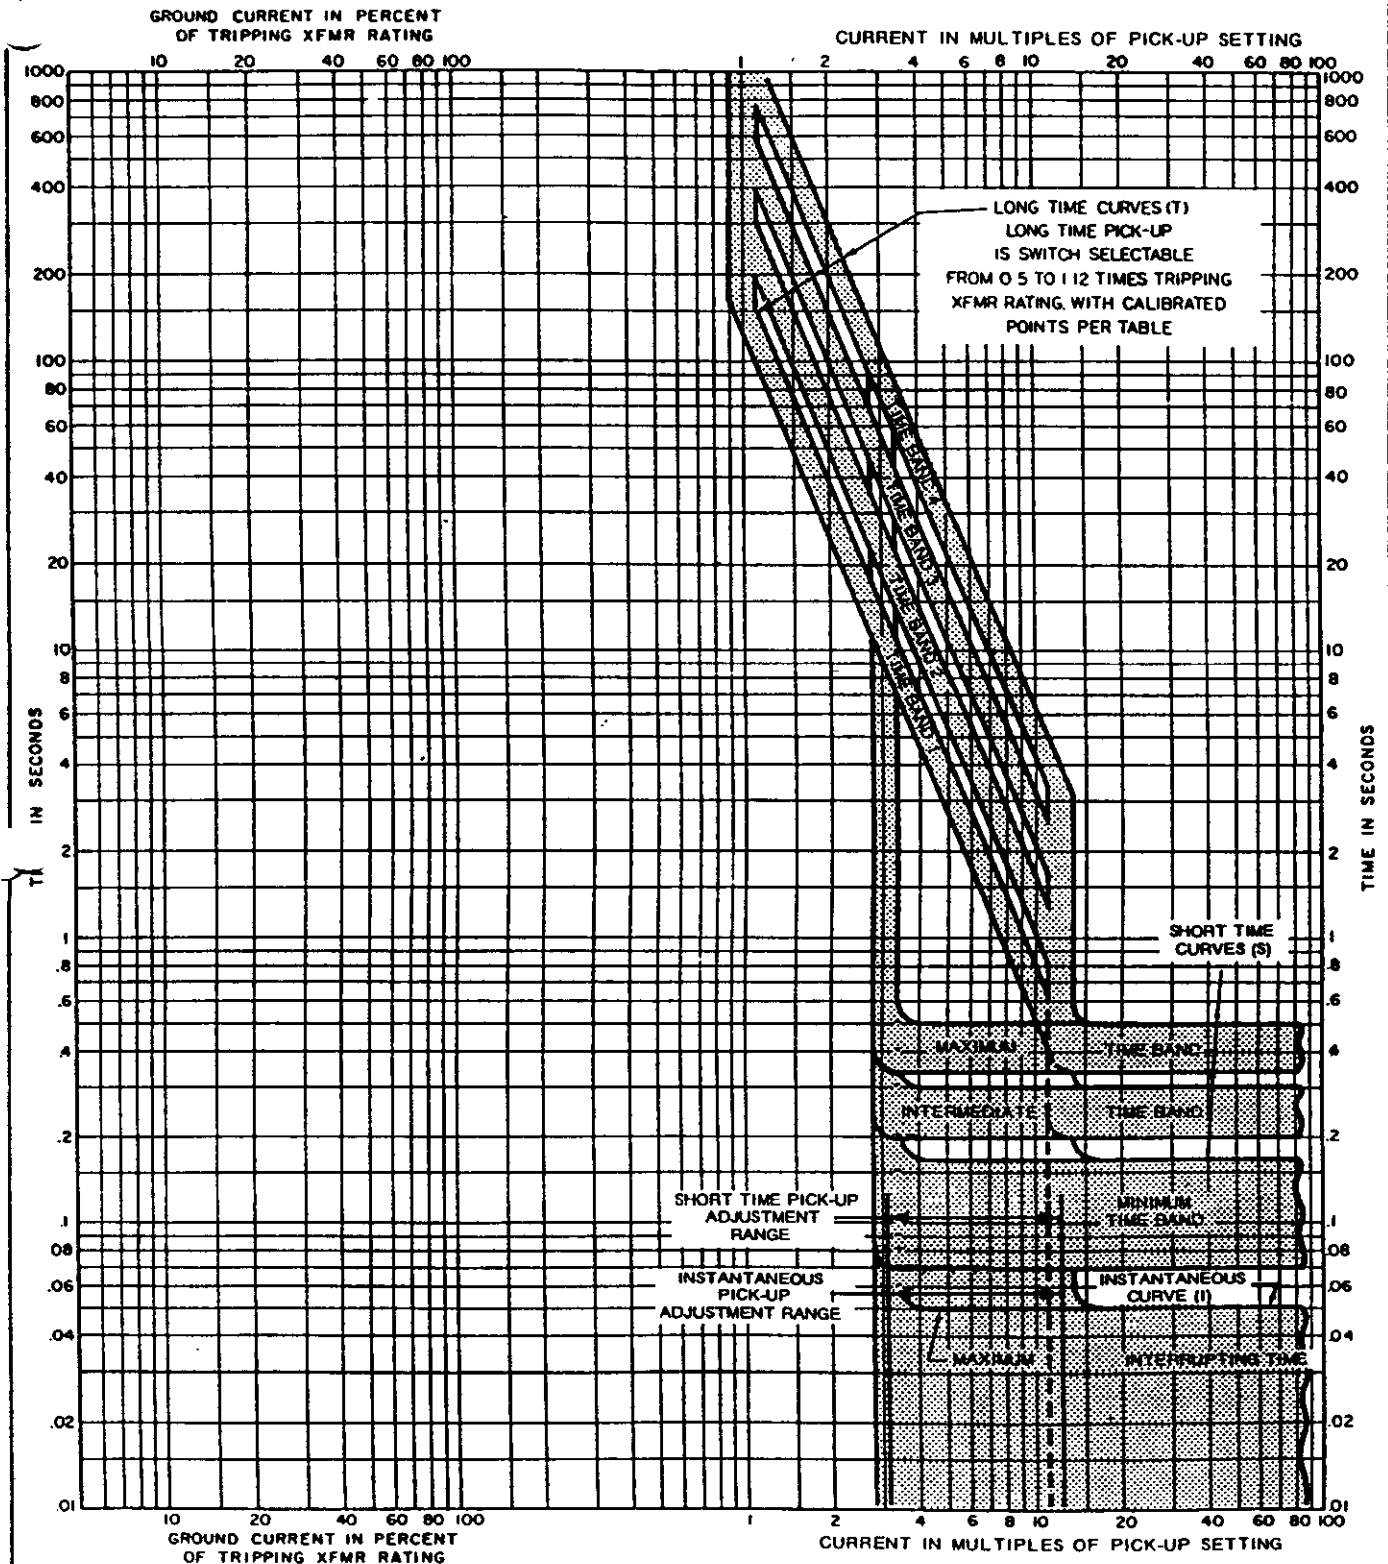

Figure 14. - LimiTrip Time/Current Curves
6. When the trip device operates, check the reading of the stop clock against the curves shown in Figure 14. The reading should be within the limits shown on the curve.
8. Repeat for the other phases, time delay bands and other values of current, as desired. All test points should fall within the bands shown on Figure 14. Each band should have precisely twice the delay of the next lower band when all other conditions are the same.
5. Press the START button, the delay on the stop clock should be 0.07 to 0.170 seconds. See Figure 14.
6. Repeat for "SHORT TIME BANDS" of "INTERMEDIATE" (Band 2) and "MAXIMUM" (Band 3). Compare with Figure 14. The other phases and different values of current can be tested if desired. Make current settings as quickly as possible to avoid over heating.